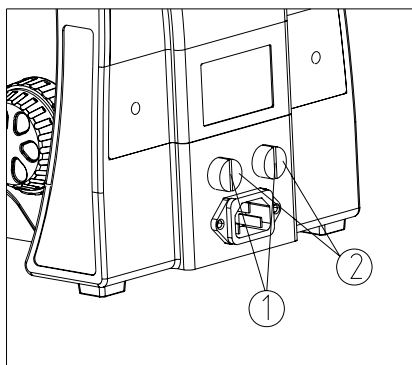

Fig. 18
Turn the main switch to “0” (OFF) before replacing the fuse. Pull out the power cord. Then screw off the fuse group① from the fuse base② with a “-” type screwdriver. Install a new fuse and screw it on the fuse base (see Fig. 18).